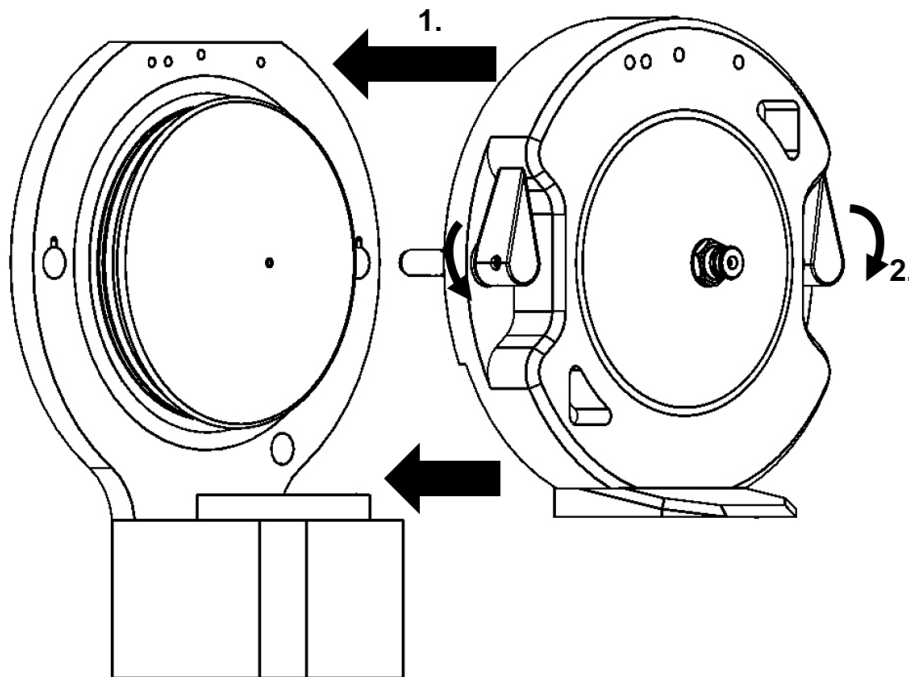

Figure 4: Installation of the SICRIT® Interlock to the mount of the SCIEX MS-instrument.
- Press the interlock gently onto the mount, ensure that the sealing ring and interface slides in place using the two holes and the guiding pins of the interlock (Figure 4, step 1).
- Lock the two levers on the interlock by turning them 180 degrees (Figure 4, step 2).